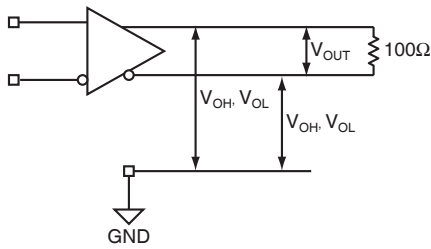
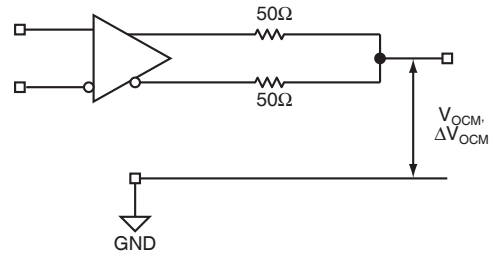

Figure 1a. LVDS Differential Measurement
Figure 1b. LVDS Common Mode Measurement
**Note 1.** The circuit is designed to meet the DC specifications shown in the above table after thermal equilibrium has been established.**Note 2.** Specification for packaged product only.**Note 3.** Measured as per Figure 1a, 100 $\mu$  across Q and /Q outputs.**Note 4.** Measured as per Figure 1b.**Note 5.** See Figure 1c.**LVTTTL/CMOS INPUTS DC ELECTRICAL CHARACTERISTICS**(Note 1, 2) $V_{CC} = 2.5V \pm 5\%$ ;  $T_A = -40^\circ C$  to  $+85^\circ C$ ; Unless otherwise stated.